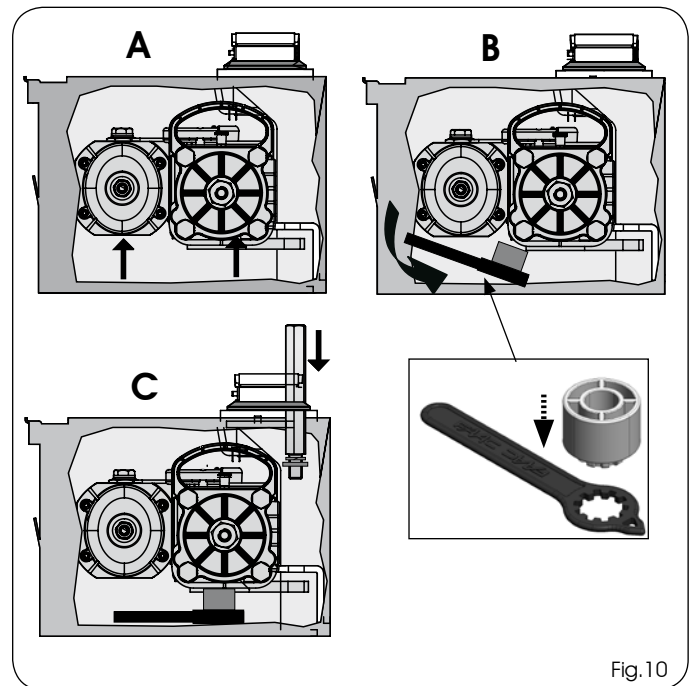

Fig.10
10) Raise the operator with its handles (Fig.10 ref. A), inserting the pinion in the grooved bush of the bearing case. To facilitate the operation, slightly rotate the operator until coupling takes place.
11) Place the supplied key under the operator, as shown in figure 10 ref. B, C
12) Insert and screw the fastening screws with groover and washer as shown in Fig. 10 ref. C, in order to secure the operator to the bearing case as shown in Fig. 11.